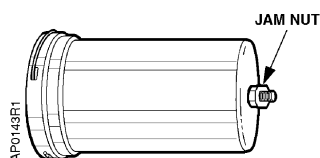

Figure 1.
- The jam nut holds back the entire spring force. Make sure that the jam nut on the shaft is next to the lower housing. See Figure 1.